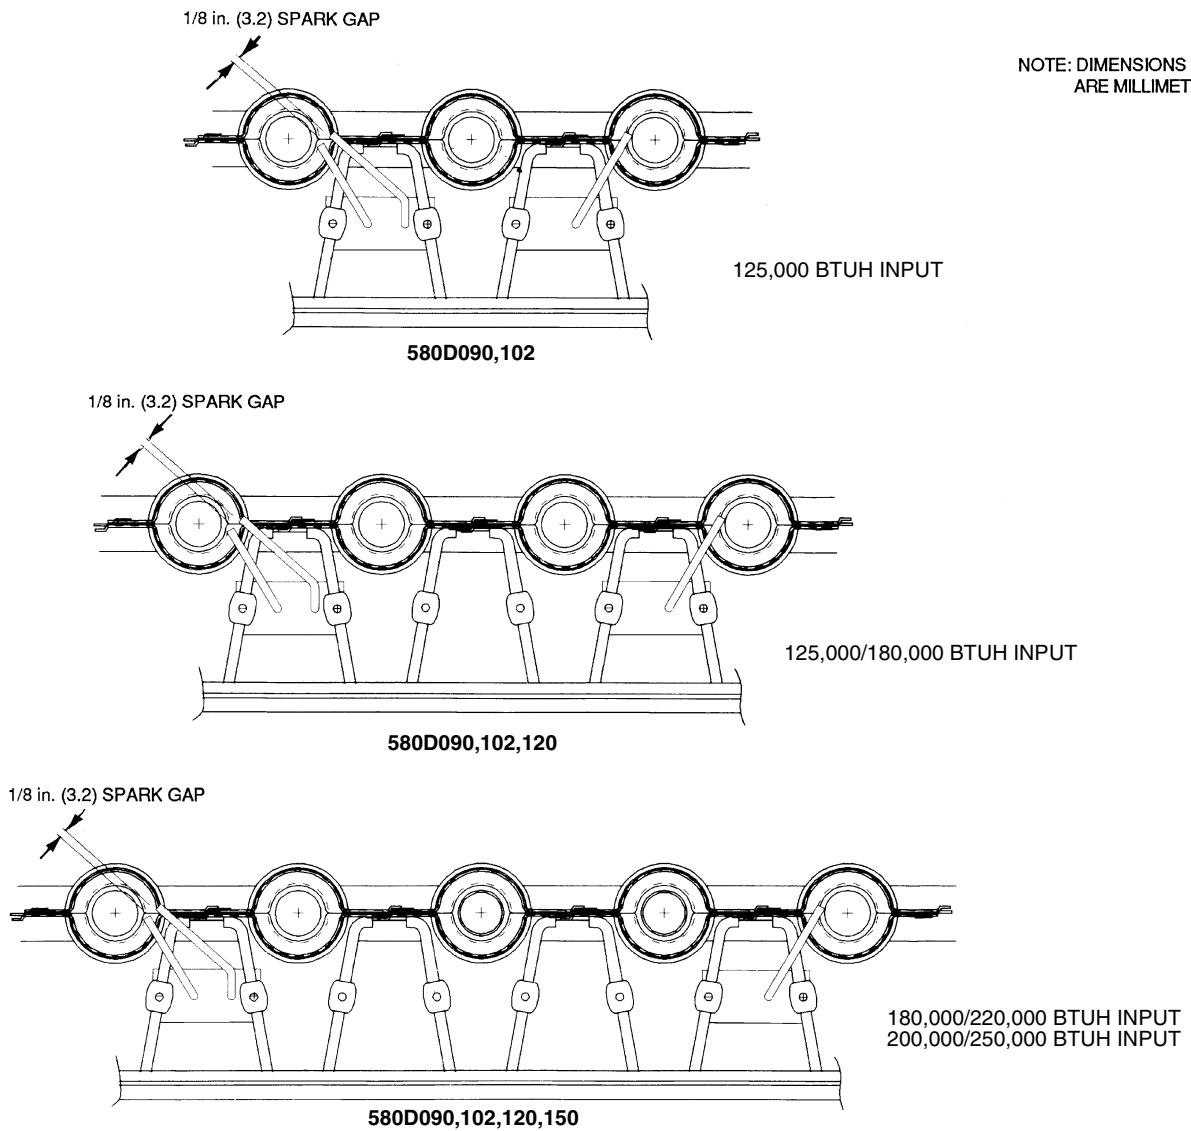

Fig. 59 — Spark Gap Adjustment
4. Adjust spark gap. See Fig. 59.